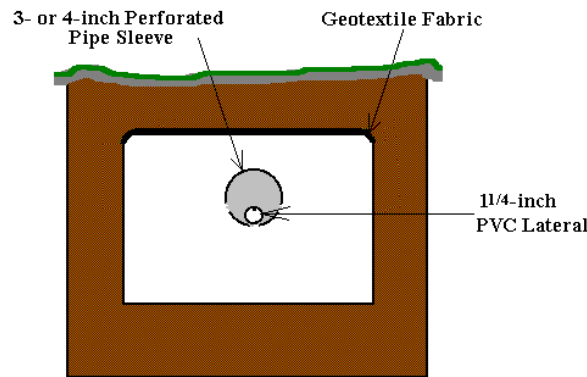

FIGURE 1: Cross-Sectional, Profile Detail of Recommended LPP Trench
1. *Sleeve laterals in 3- or 4-inch conventional nitrification line perforated tubing.* Reduces the effects of rock shadowing and root intrusion and enables easy removal or replacement of the LPP laterals, if necessary. (See Figures 1 and 3)
2. *Following item 1, drill all orifices facing upwards, except for a hole 1/3 of the way from the beginning and end of each line which should face down.* Having the orifices face up: helps bleed air out of the system better during pressurization; ensures no shadowing of these orifices by rock, roots, or perforated pipe corrugations; helps breaks the air block better after pump shut off, reducing siphonage from laterals to the supply manifold, which, in turn, may reduce the overloading of the lower laterals; and allows less opportunity for hole clogging by solids and bioslime. Having the two holes on each line face down allows effluent to drain after pumps shut off which: prevents anaerobic conditions inside the laterals; prevents standing water inside the laterals which could
4. *Use geotextile fabric over the trench, at the gravel - backfill interface.* Prevents the infiltration of small soil particles into the trench voids. (See Figures 1 and 3)